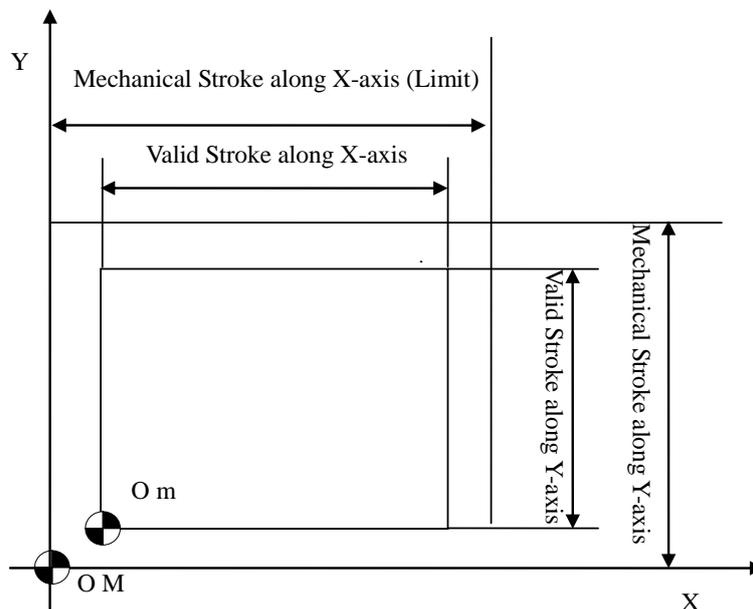

Fig. 2-3 Machine Origin OM and Machine REFER Om
MCS is the intrinsic coordinate system of machine tool. Known as machine origin or machine zero point, or home position, the origin of MCS is confirmed and fixed after designing, manufacturing and tuning of machine. The CNC device doesn't know where machine origin is when power on, and the mechanical stroke of each coordinate axis is limited by maximum and minimum limit switch. To correctly set MCS at machining, we normally set a machine REFER point (the initial point of measurement) within the stroke range of each coordinate axis. After starting the machine, it is necessary to back to REFER point manually or automatically so as to create the MCS. The REFER point can coincide with MO or not. If not, the distance from machine REFER point to MO can be set by parameter setting. After the machine returns to the REFER point, the machine origin, which is the reference point of all coordinate axes, is confirmed, so the MCS is established. The stroke of MCS is defined by the machine tool manufacturer, while the valid stroke of MCS is defined by software limit. The relationship between machine origin (OM), machine REFER point (Om), the mechanical stroke and valid stroke of MCS is as shown in Fig. 2-3.